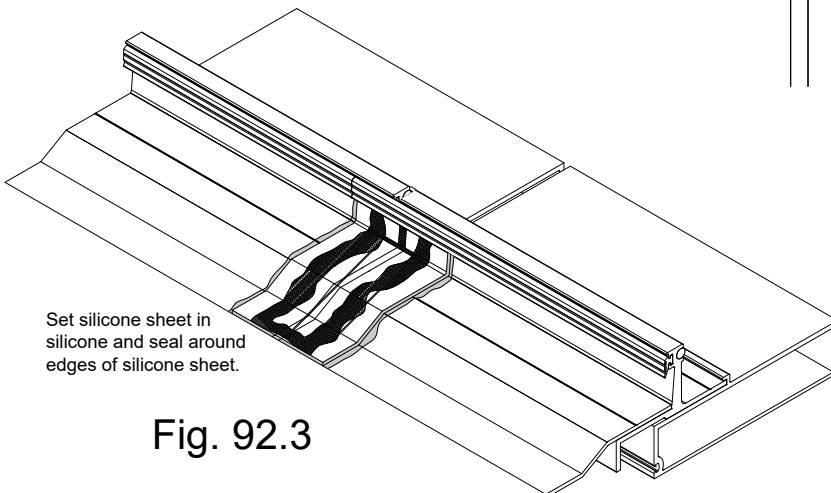

Fig. 92.3
- Step 2: Install silicone bead on chicken head surface and extension where silicone sheet will be installed. See Fig. 92.3.
- Step 4: Seal around perimeter of silicone sheet. See Fig. 92.3.